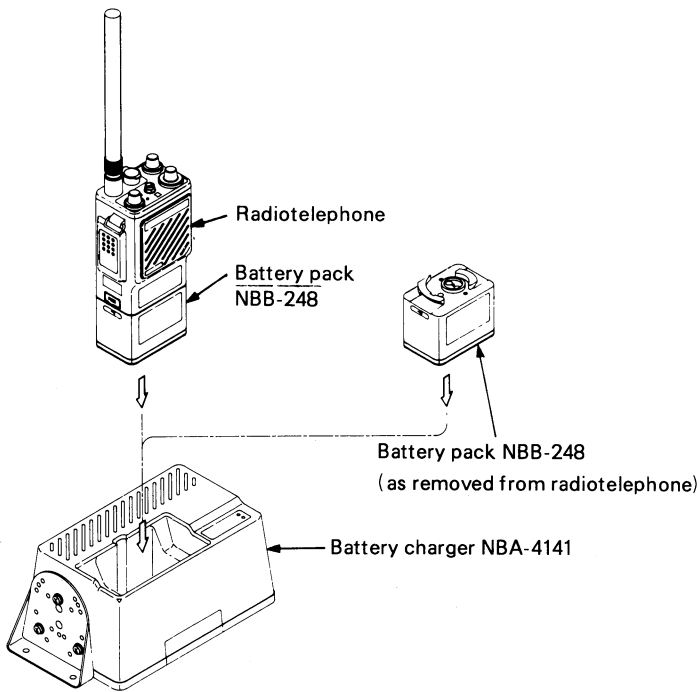

Figure 4-1 Inserting of Battery Pack
- (1) Attach the AC plug of the battery charger NBA-4141 to the convenience outlet.
- (2) Turn off the JHS-7, and insert the battery pack into the battery charger, as shown in Figure 4-1, with or without the radiotelephone mounted on the pack. It is not possible to insert the pack in a direction different from that shown in the figure because of a preventing mechanism. When the battery pack is inserted correctly, the QUICK lamp lights up red, and quick charging begins.
- (3) When quick charging is complete, the QUICK lamp goes out. Then, the TRICKLE lamp lights green, indicating that trickle charging begins.